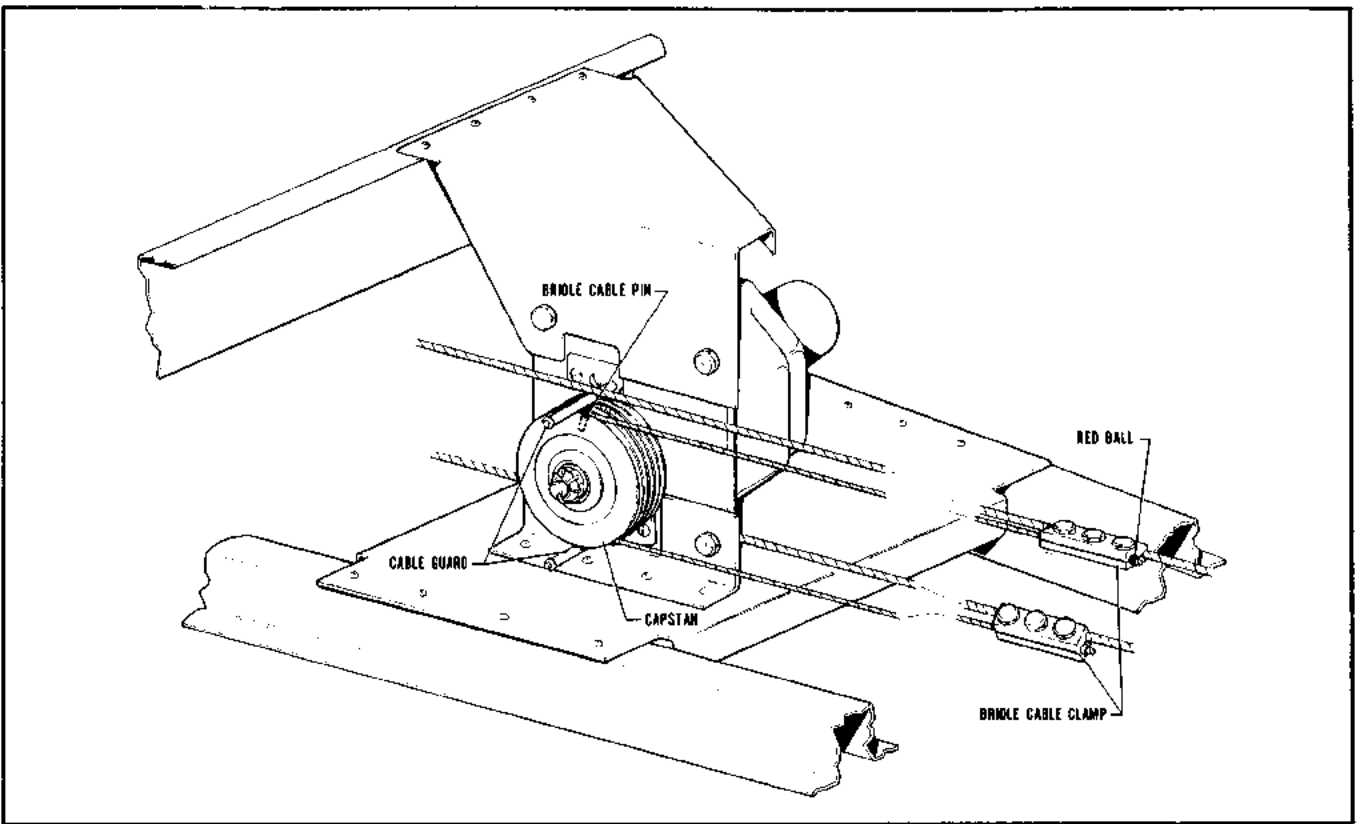

Figure 3-17. Pitch Servo Installation, PA-23-250
3-22. INSTALLATION OF PITCH SERVO. (PA-23-250 Six Place) F Model. (Refer to Figure 3-17.)
- e. REFER TO FIGURE 3-9 AND CHECK THAT THE CONTROL CABLE TENSION (Z) IS ADJUSTED TO 35 ± 4 POUNDS PRIOR TO ATTACHING THE BRIDLE CABLE CLAMPS. Ascertain area on cable where clamp attaches is clean, dry and free of all lubricants and anti-corrosive additives. Attach the bridle cable to the stabilator control cables. The bridle cable is drawn to the stabilator control cables and attached with clamps at the previously painted locations. The end of the bridle cable with the red ball is attached to the left control cable. (Refer to Figure 3-17.) (Should the stabilator cables not be painted, position the control wheel full forward and with the servo disengaged, align the bridle cable pin installed in the capstan as shown in Figure 3-17.) Adjust the bridle cable clamps so that the bridle cable tension (Y) as shown in Figure 3-9 is 15 ± 2 pounds. Check the control cable tension forward of the bridle cable clamps and adjust, if necessary to obtain 35 ± 4 pounds. If the control cables require adjustment, it will be necessary to readjust the bridle cable tension to 15 ± 2 pounds. Torque the bridle cable clamp bolts to 55 ± 5 inch-lbs.